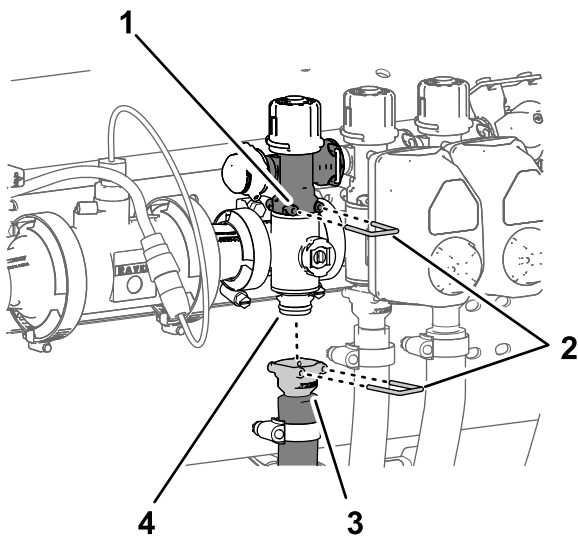

Figure 126
- 1. Remove the quick-connect pin that secures the quick-connect coupler for the section-bypass valve to the section-manifold valve (Figure 126).
- Remove the quick connect pin that secures the quick-connect coupler for the section supply hose to the manifold for the quick-connect fitting of the section-manifold valve (Figure 126).